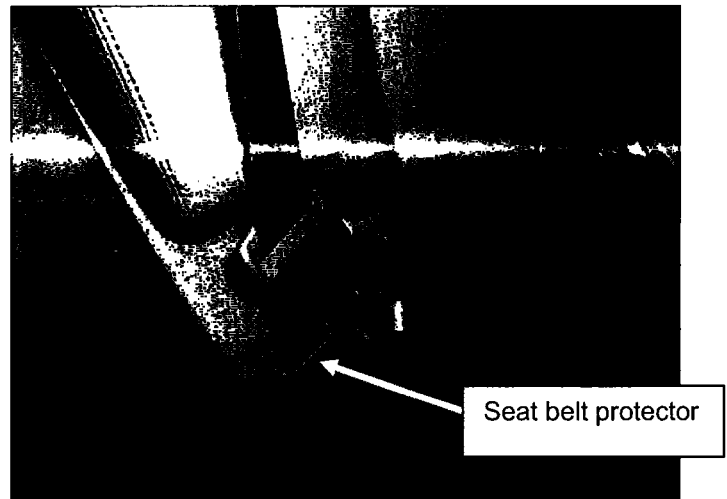

Figure 10
10. Place the upper portion of the rear seat in the normal riding position and confirm the seat belt protector is properly positioned (see Figure 10).